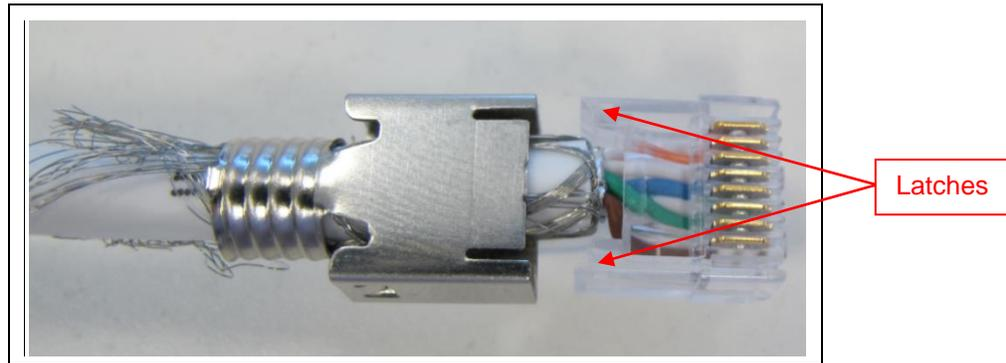

Figure 10. Secure Wire Holder into Housing
7. Push the wire holder into the housing until it latches into both sides of the plug housing. A double click shall be heard when both latches are in their place. See Figure 10.